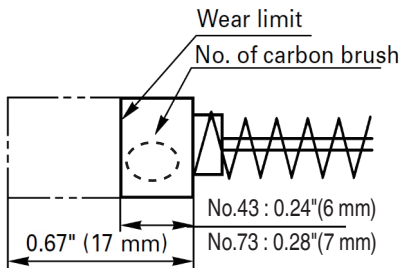

Fig. 20
4. Inspecting the carbon brushes: (Fig. 20)